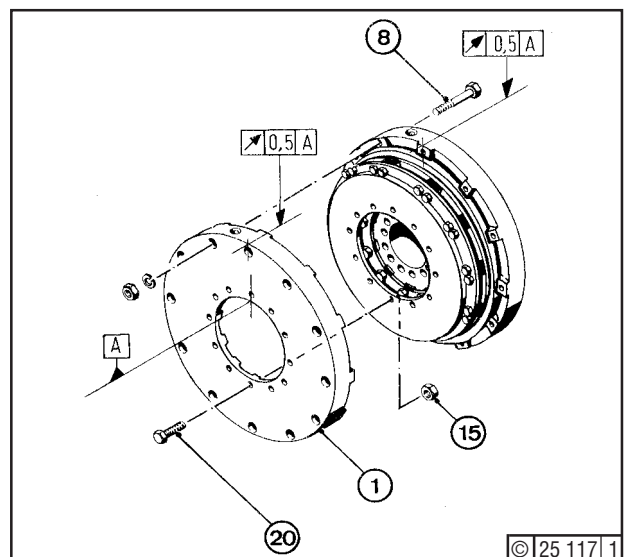

Fig. 6
Place end plate (1) - Fig. 6 - in position, observing markings as per Fig. 1. Insert hex. bolts (8) and fasten with nuts complete with spring lockwashers. Fit hex. bolts (20), provided with Deutz DW 55. Tighten up end plate and damping-disc pair with hex. nuts (15) (Section 3.5, item 58).
Mount vibration damper (job 12.01.03). If an end plate (Fig. 6, item 1) or a fly ring (Fig. 7, item 22) had to be renewed, the damper must be statically balanced.
Finally, check for true running as per Figs. 6 or 7.